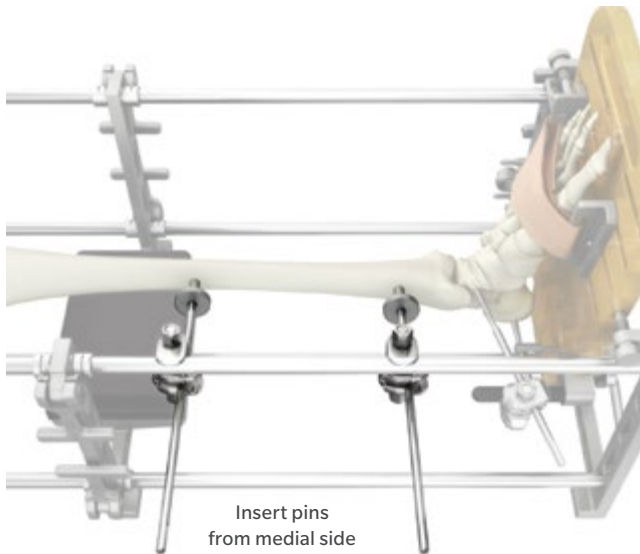

Fig. 26
- Insert two 5.0 mm Self Drilling Pins on the medial side of the tibia (Fig. 26).